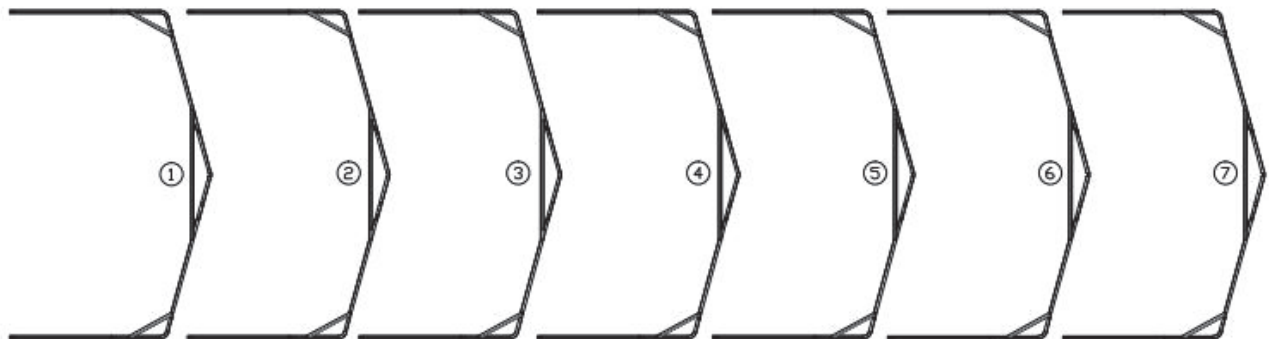

Figure 5
- Lay down all (7) trusses on the ground when the assembly is all completed and before moving to next step (refer to figure 5).